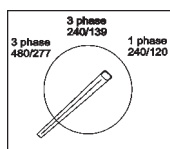

Figure 47. Voltage Selector Switch
6. Check the voltage selector switch to desired position. (Figure 47)